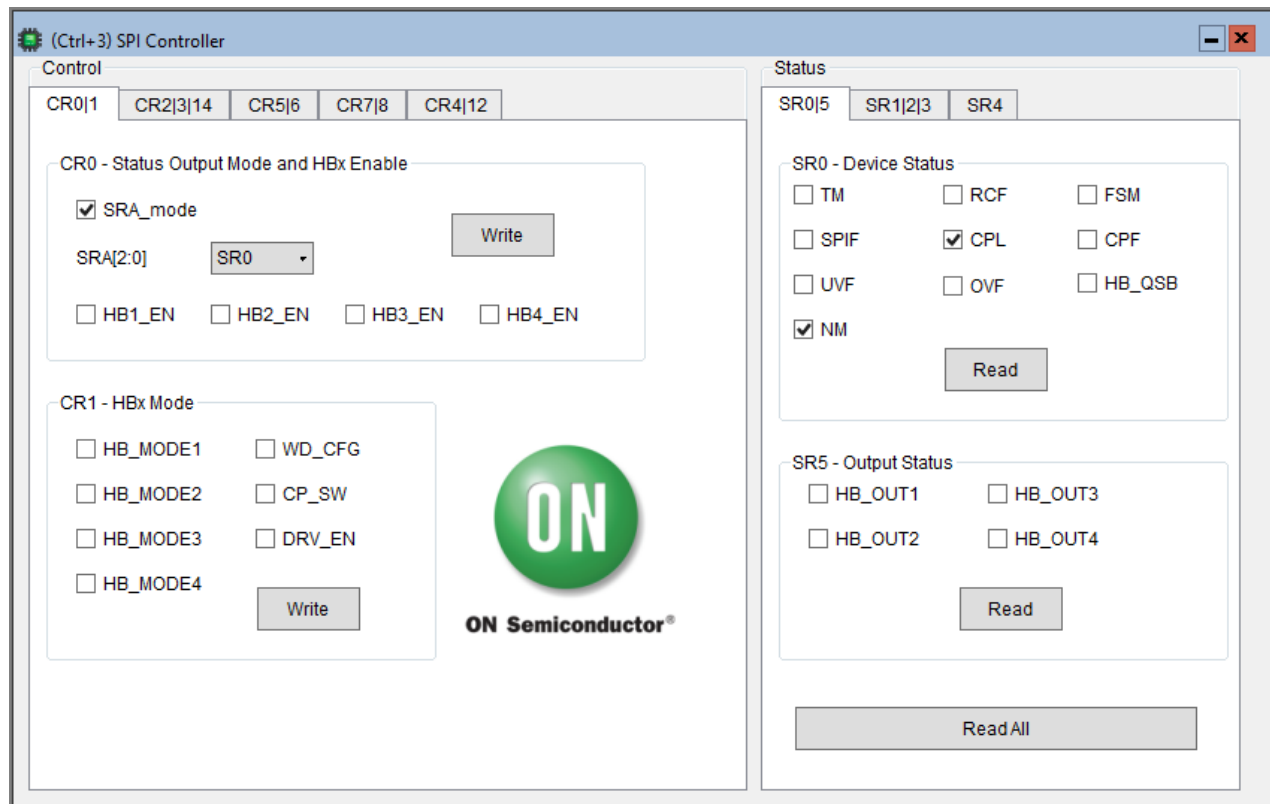

Figure 11. NCV7544 Controller Framework, SPI Controller
14. “SPI Controller” (Figure 11) window provides direct access to all NCV7544 SPI registers.